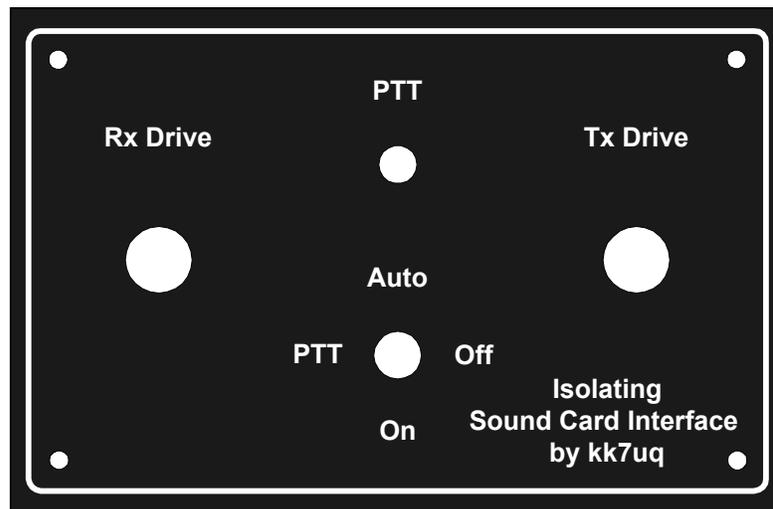

Figure 5.8 Panel Overlay
5.3.2 Panel Overlay - the overlay for the top cover carries the legends and identification of all functions on the panel. It is produced with an ink jet printer onto photo quality paper, hence it is thicker than normal printer paper and has a glossy finish. A reproduction of the overlay is shown in figure 5.8, *Panel Overlay*, below. The actual overlay is included in the Interface Design Package supplied by Discovery Bay Computing. The overlay is made slightly larger than the panel size itself. This will be trimmed after the overlay is glued to the panel.